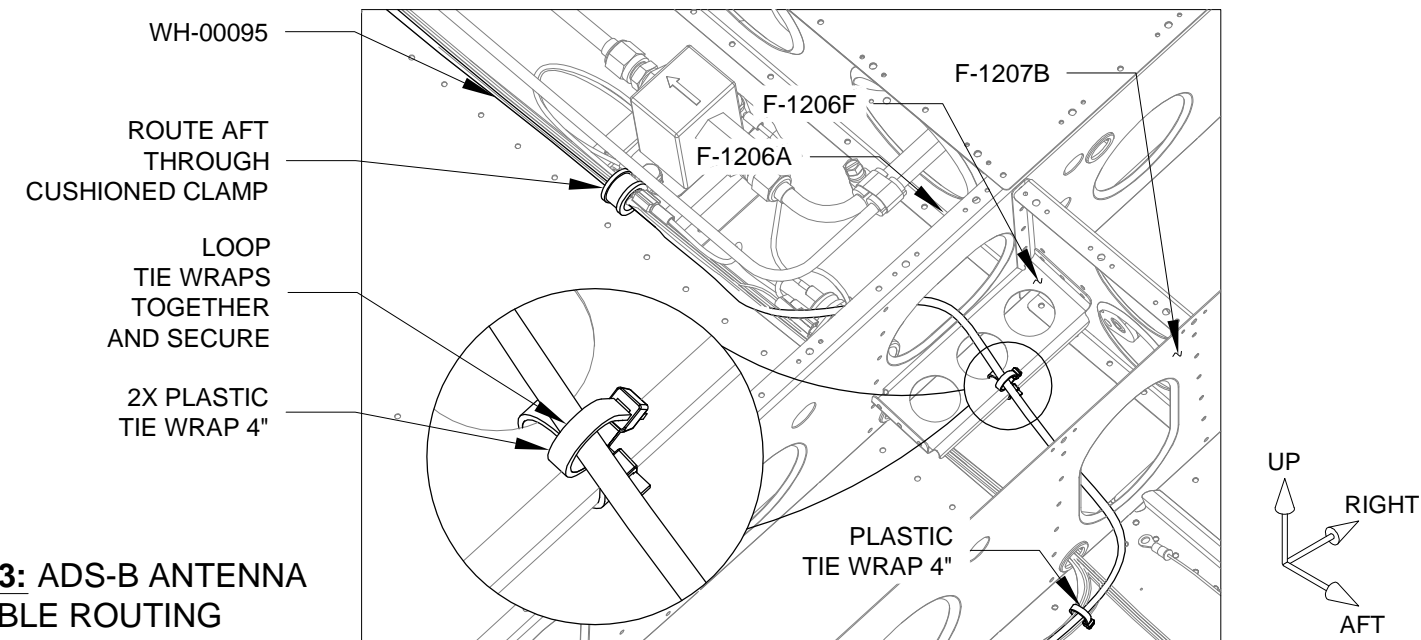

FIGURE 3: ADS-B ANTENNA CABLE ROUTING
Step 5: Route WH-00095 ADS-B Antenna Cable aft through the upper snap bushings just added to the F-1204A and F-1204D Bulkheads, through the cushioned clamp near the fuel pump, and through the openings in the F-1206A and F-1207B Bulkheads as shown in Figure 3.
Secure the ADS-B Antenna Cable to the F-1206F Bearing Bracket Brace and other wires as shown in Figure 3.